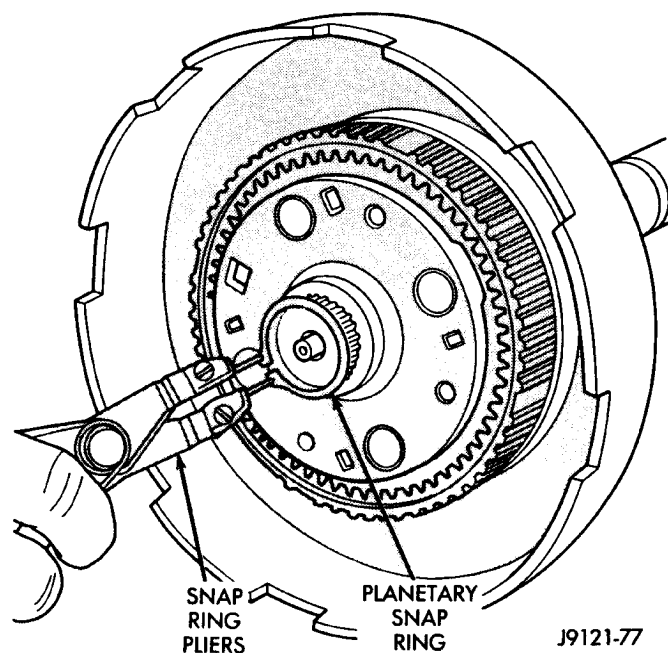

Fig. 191 Installing Planetary Snap Ring
(14) Install new planetary snap ring in groove at end of intermediate shaft (Fig. 191).